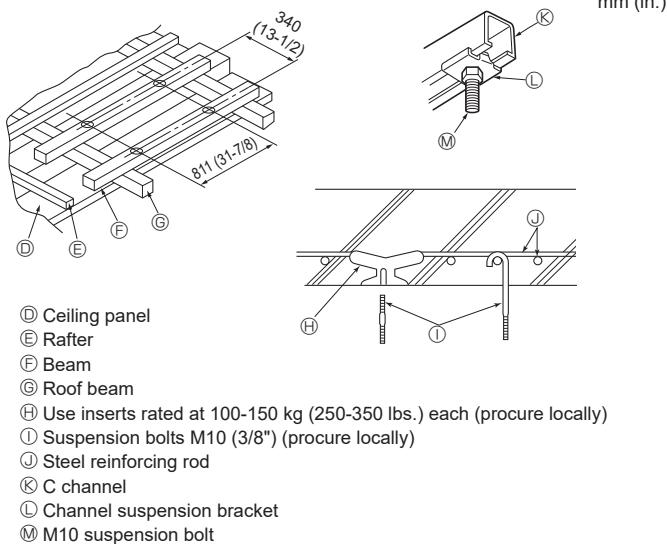
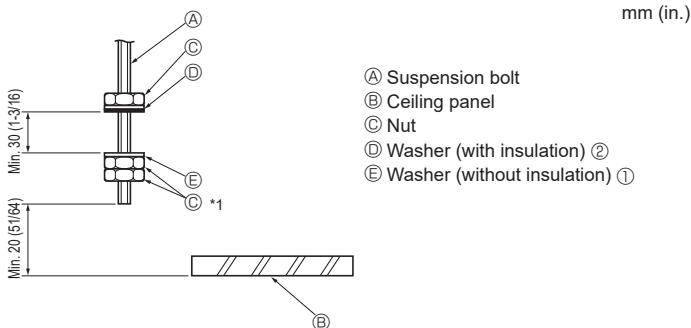

Fig. 2-4
Fig. 2-5
- ① Wooden structures (Fig. 2-4)
- ② Ferro-concrete structures
2.4. Unit suspension procedures (Fig. 2-5)